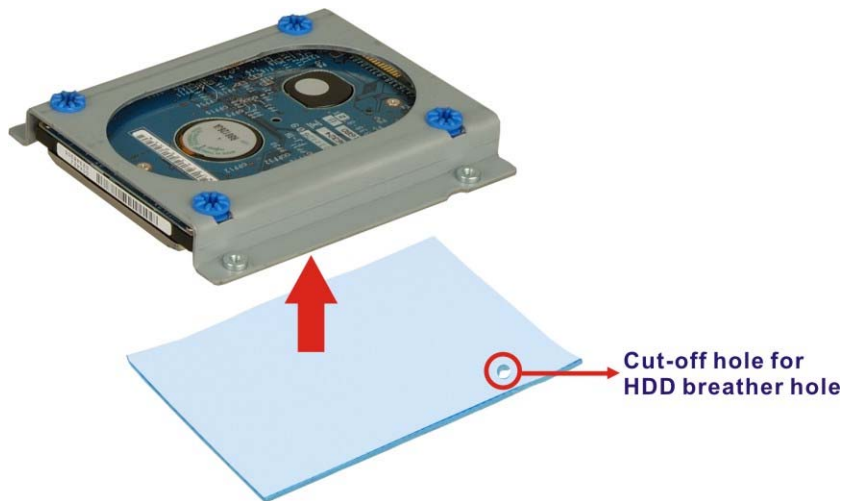

Figure 3-5: HDD Thermal Pad
Step 7: Adhere the thermal pad to the HDD. Make sure there is no obstacle covering the breather hole (**Figure 3-5**).